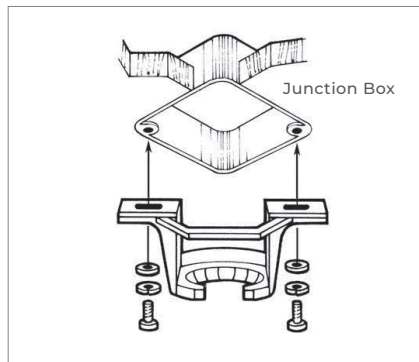

FIGURE 2
1) Install the mounting bracket onto the j-box located in the ceiling using two machine screws, two washers, and two lock washers (Fig 2)